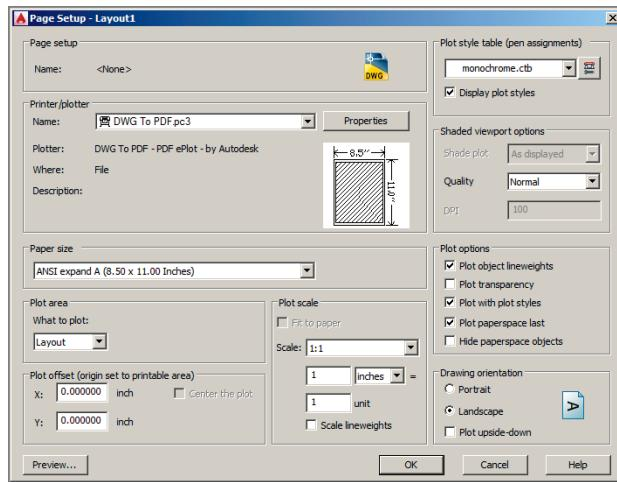

FIGURE 13.12 Configuring a page setup
- If you are using Imperial units, select ANSI Expand A (8.50 × 11.00 Inches) as the paper size (see Figure 13.12). Leave the plot scale at 1 inch = 1 unit. Click OK, and then click Close.